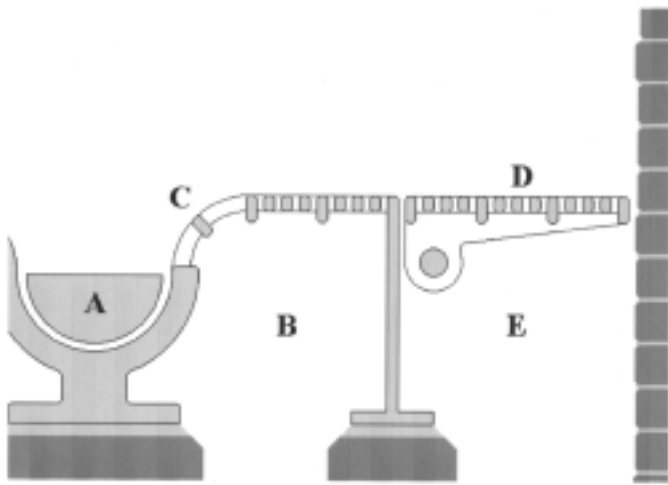

Figure 9-59. Dump grate
As the coal is pushed up it is mixed with air entering via the tuyeres (C in Figure 9-59), pipes, tubes or slots in the grate that admit the air into the furnace. The mixture is ignited by coal already burning above the grate. The coal air mixture partially burns on the grate and completes burning of hydrocarbons vaporized by the heat of the furnace in the space immediately above the grate. Air at the tuyeres and most active portion of the grate is considered primary air and is controlled by dampers supplying the air to the primary air zone (B).